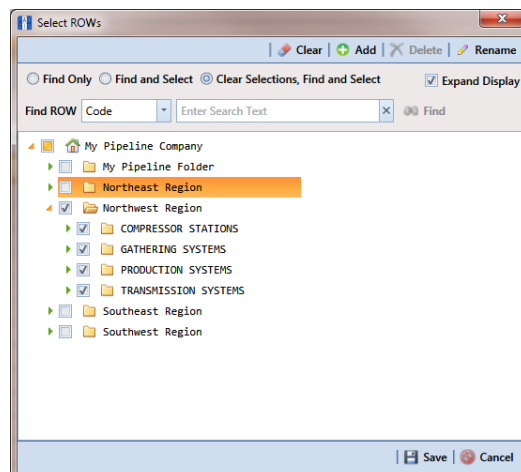

Figure 7-4. Select ROWs
- 1 Click the **Select ROWs** button  to open the *Select ROWs* window (Figure 7-4, page 216).
- 1 Click the **Select ROWs** button  to open the *Select ROWs* window (Figure 7-4, page 216). Select one or more pipeline segments with facilities you want to work with, then click  **Save** to close the window.